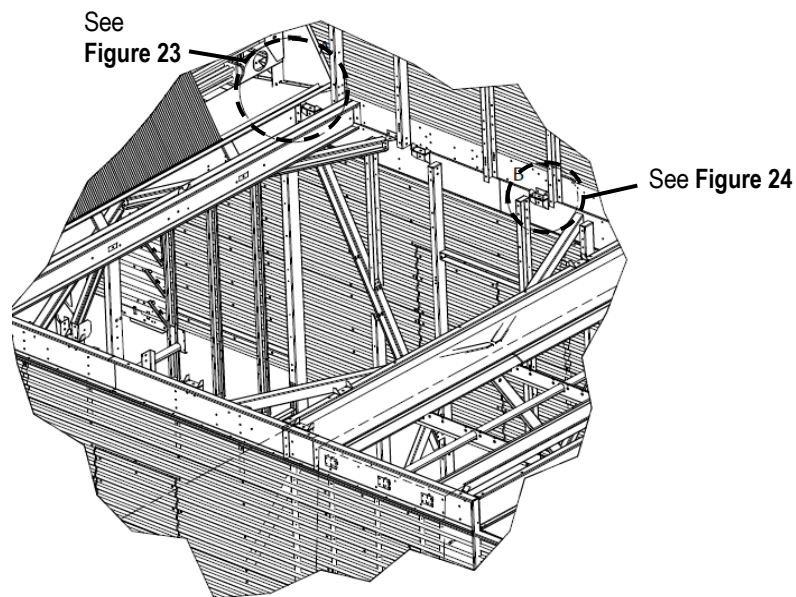
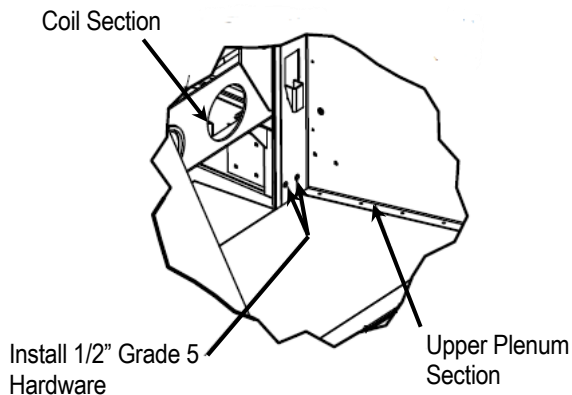
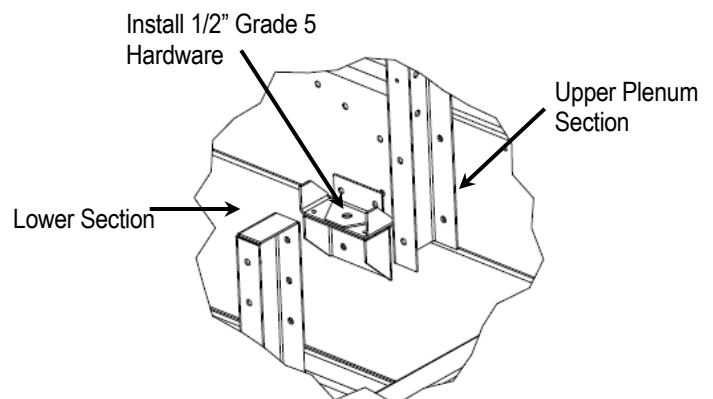

Figure 22. Upper and Lower Section Bolted Connections
Figure 23. Coil Section to Upper Plenum Section Connection
Figure 24. Lower Section to Upper Plenum Section Connection
13. Join coil section to upper plenum section. Refer to **Figure 22** and **Figure 23**.
- b. Using supplied 1/2" Grade 5 hardware, bolt upper plenum section to coil section. Refer to **Figure 22** and **Figure 23**.
- c. **Figure 23**.
15. Join lower section to upper plenum section. Refer to **Figure 22** and **Figure 24**.
- a. Using supplied 1/2" Grade 5 hardware, bolt lower section to upper plenum section. Refer to **Figure 22** and **Figure 24**.